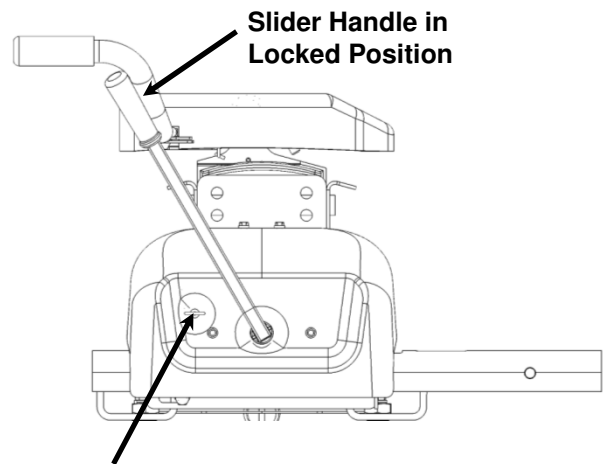

Figure 27a
1. Before towing, check to make sure entire Slider Assembly is properly locked in the Towing or Maneuvering Position. See Figures 27a or 27c.